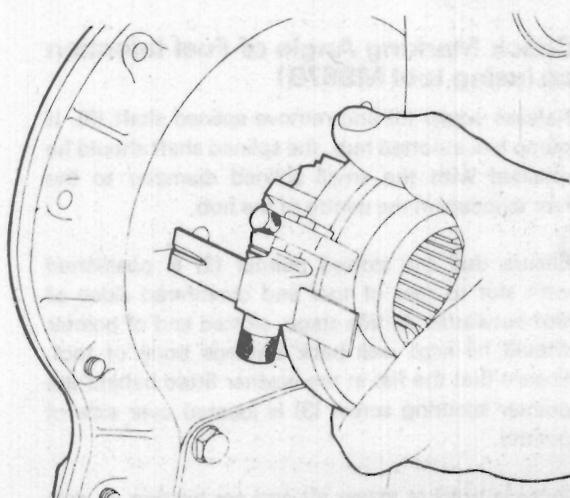

Fig. K.9.
- | 9. Take up backlash by turning tool against normal direction of rotation (shown on pump nameplate) and check that the scribed line on the rear of the timing case coincides with the centre of the slot in the pointer (see Fig. K.9). Remark line if necessary or, if no line exists, scribe a line outwards from centre of slot. If line is 7° or more from slot, this would probably indicate that timing gears are incorrectly fitted and gears should be refitted.